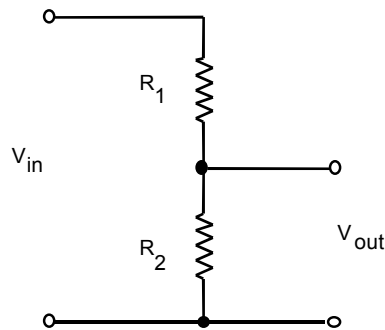

Figure 1-8
- ☞ Measure the values of the resistors shown in Figure 1-8, then wire up the circuit. Use the prototyping board. Use the 5-Volt power supply built into the prototyping board to supply V_{in} .
- ☞ Examining Figure 1-8, use the potentiometer, instead of fixed resistors, to hook up the circuit. Be sure that you apply the *input* voltage across the two terminals that have a *fixed* resistance. The *wiper* of the potentiometer should be the output terminal in the middle-right of Figure 1-8. Observe the output voltage while turning the potentiometer. If the output voltage increases as you turn the knob clockwise, you are done; otherwise change one of the *output* connections.